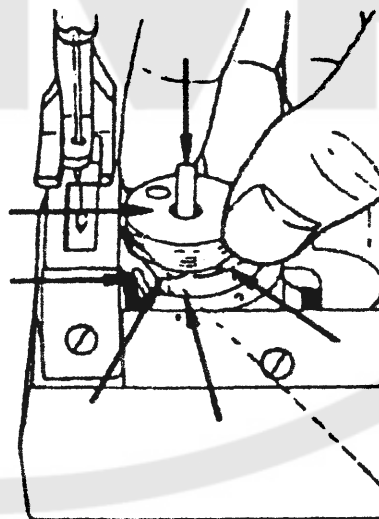

Fig.7
8.REMOVING AND INSERTING THE BOBBIN: (Fig.7)